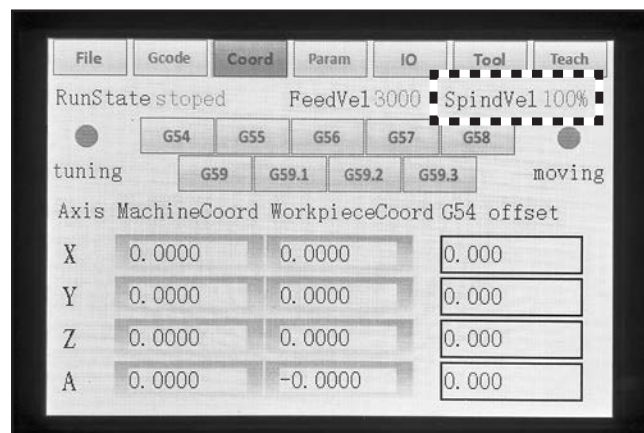

Figure 29. SpindVel status displaying 100%.
6. Press and hold one of the enable buttons on either side of DSP controller, then slowly rotate MPG wheel clockwise until SpindVel value shows 100% (see **Figure 29**).